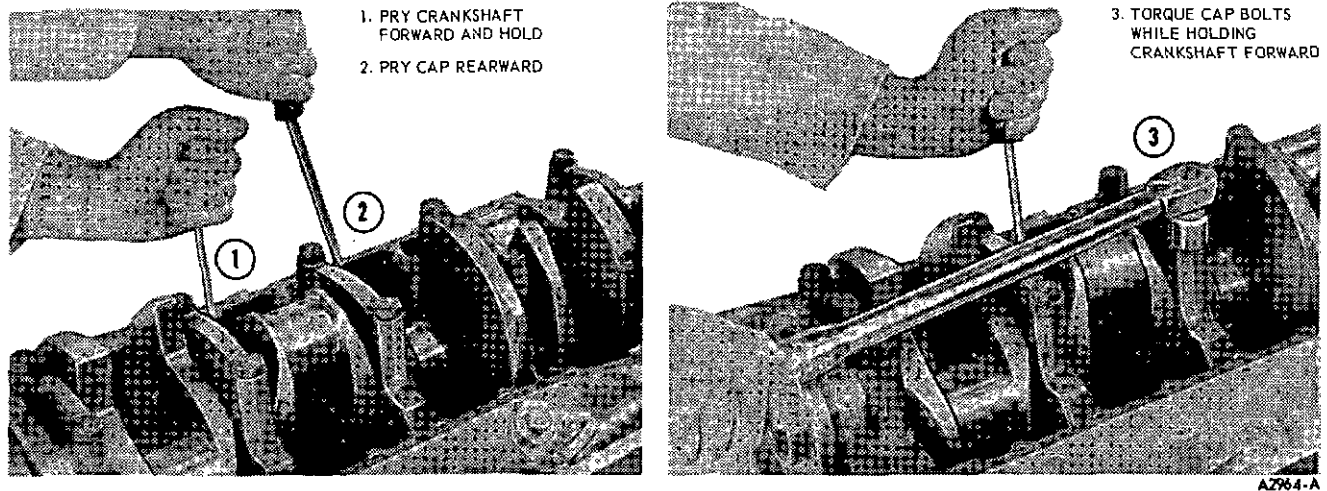

FIG. 54 Aligning Thrust Bearing
Install the thrust bearing cap with the bolts finger-tight. Pry the crankshaft forward against the thrust surface of the upper half of bearing (Figure 54). Hold the crankshaft forward and pry thrust bearing cap to rear: This aligns thrust surfaces of both halves of bearing. Retain forward pressure on crankshaft. Tighten cap bolts to specifications.
13. Pry the crankshaft forward against thrust surface of upper half of bearing (Figure 54).